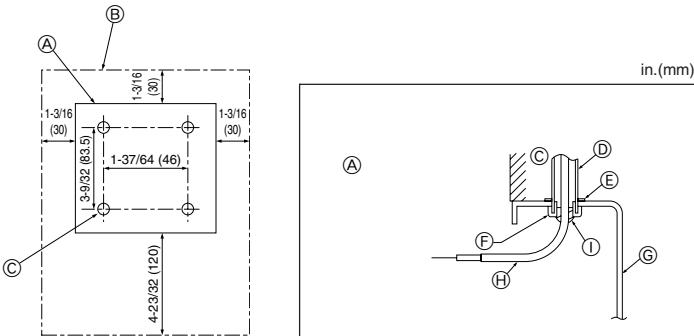

Fig. 6-8
(1) Select an installing position for the remote controller. (Fig. 6-8)